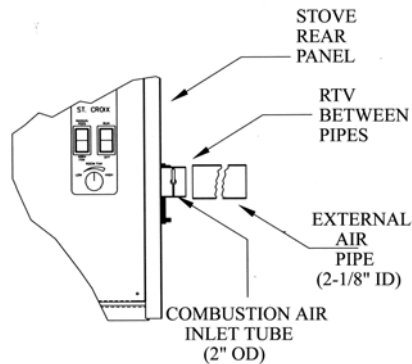

Figure 11A
1. It is recommended that the stove be connected to an outside source of combustion air to improve stove performance. Flexible metal hose, such as ClevFlex, or rigid metal pipe, (conduit), must be connected around (NOT INSIDE) the combustion air inlet tube (Figure 11A). Be careful not to pinch or bend the outside air pipe with too small a radius which may e terminated flush with the outside wall but should be protected from wind and weather by a hood. Note: The outside air pipe must terminate above the maximum snow line.
3. 3.Increase the outside air pipe diameter to 3" for runs over ten (10) feet and elevation over 4,000 feet. Note: Long runs should be avoided.